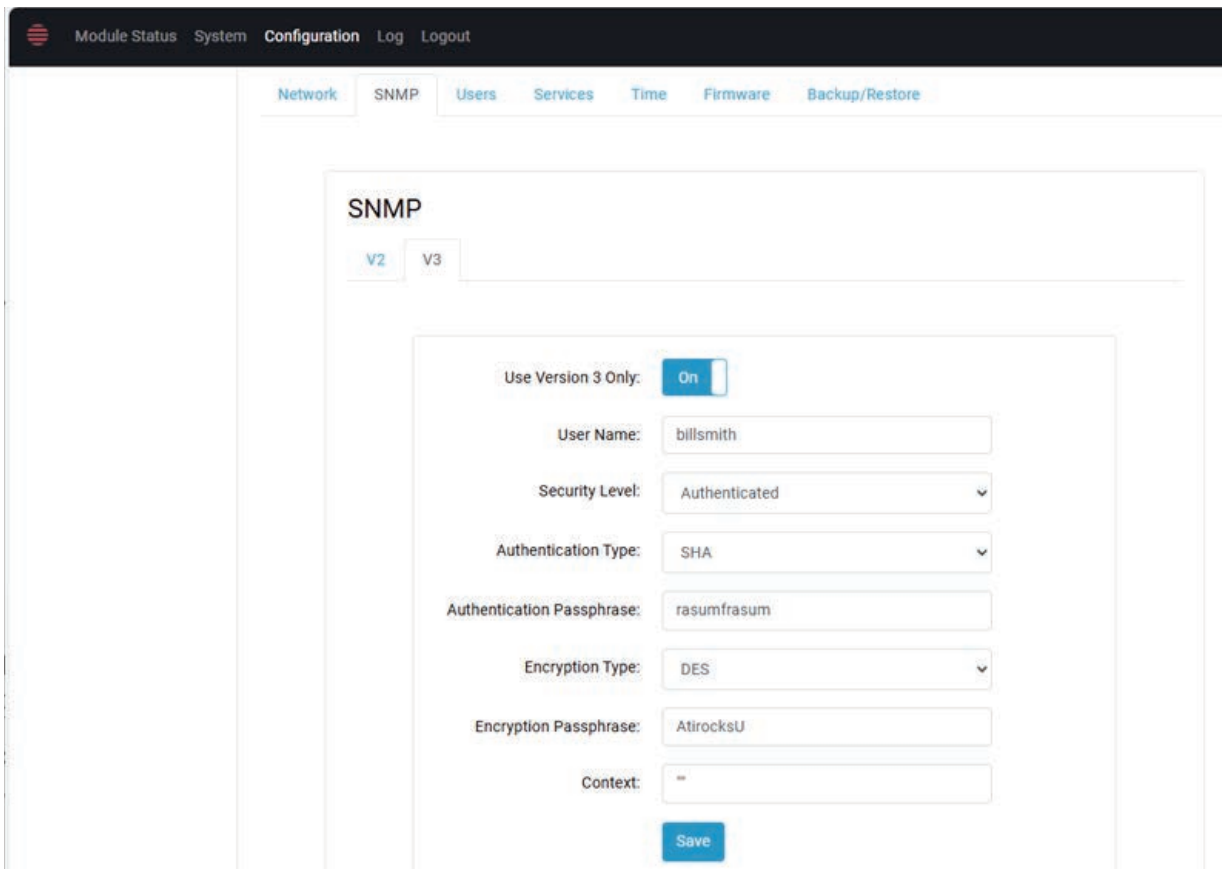

Figure 2. SNMP V3 Window
5. To configure SNMPv3 objects, select the **V3** tab. Refer to Figure 2.